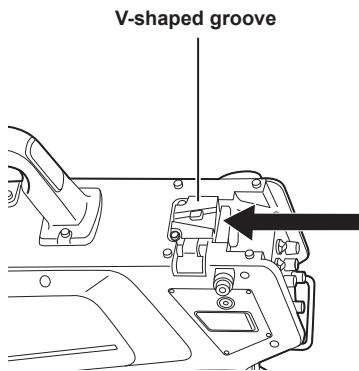

Fig. 2
**3** Align the V-shaped projection of this unit to the V-shaped groove on the camera, and slide and push in until it is locked. (Fig. 2)